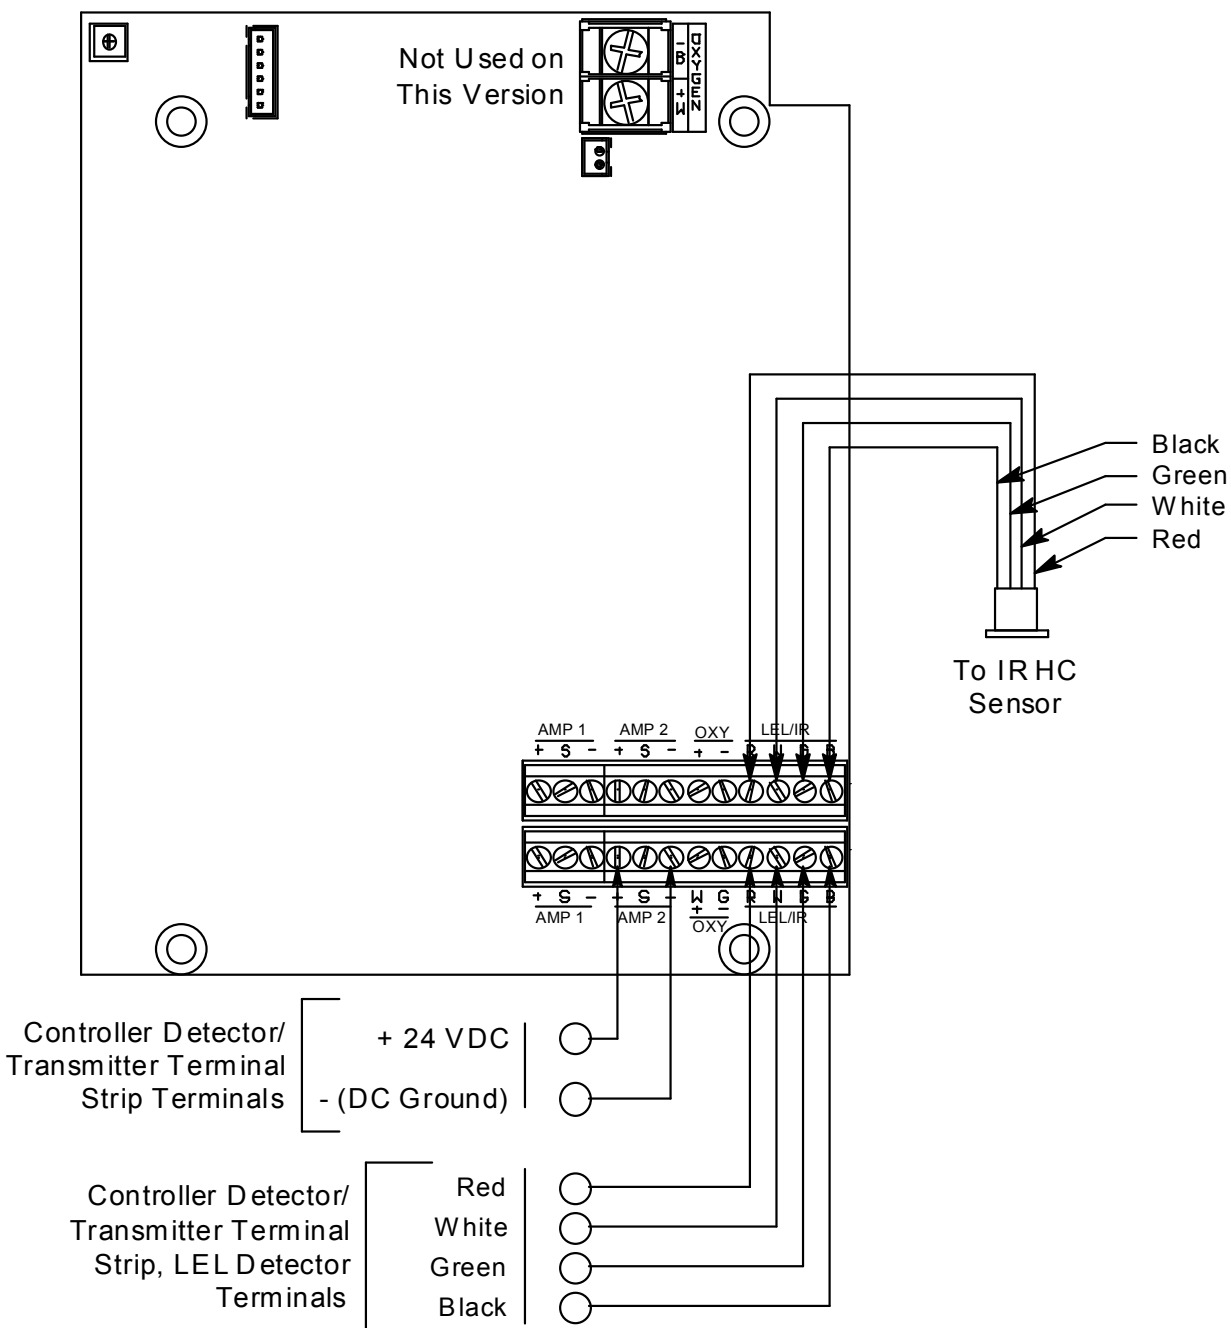

Figure 4: Wiring the Sample-Draw Detector to a Controller
5. Connect the cable to the sample-draw detector’s interconnect terminal strip as shown in Figure 4.
8. Connect the wires to the applicable detector/transmitter terminal strip at the controller as shown in Figure 4. Refer to the controller operator's manual and the controller detector head specification sheet for the 35-3001-01-02 for detector/terminal strip connections specific to the controller.